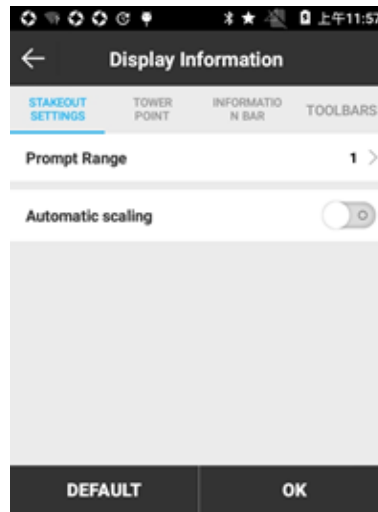

Figure 5.12-7
-  Display information: as shown in Figure 5.12-7, it can set stakeout settings, including Prompt Range and whether to enable automatic scaling; settings for [TOPO POINT], [INFORMATION BAR] and [TOOLBARS] are the same as that of Point Survey.